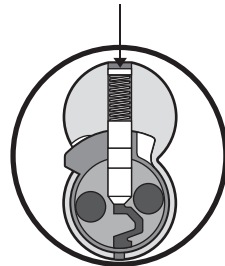

Figure 2 — Driving the cap to the proper depth.
- 6 Holding the capping pin, strike the top so that the cap is driven into the barrel 0.025 to 0.040 inch. See figure 2.